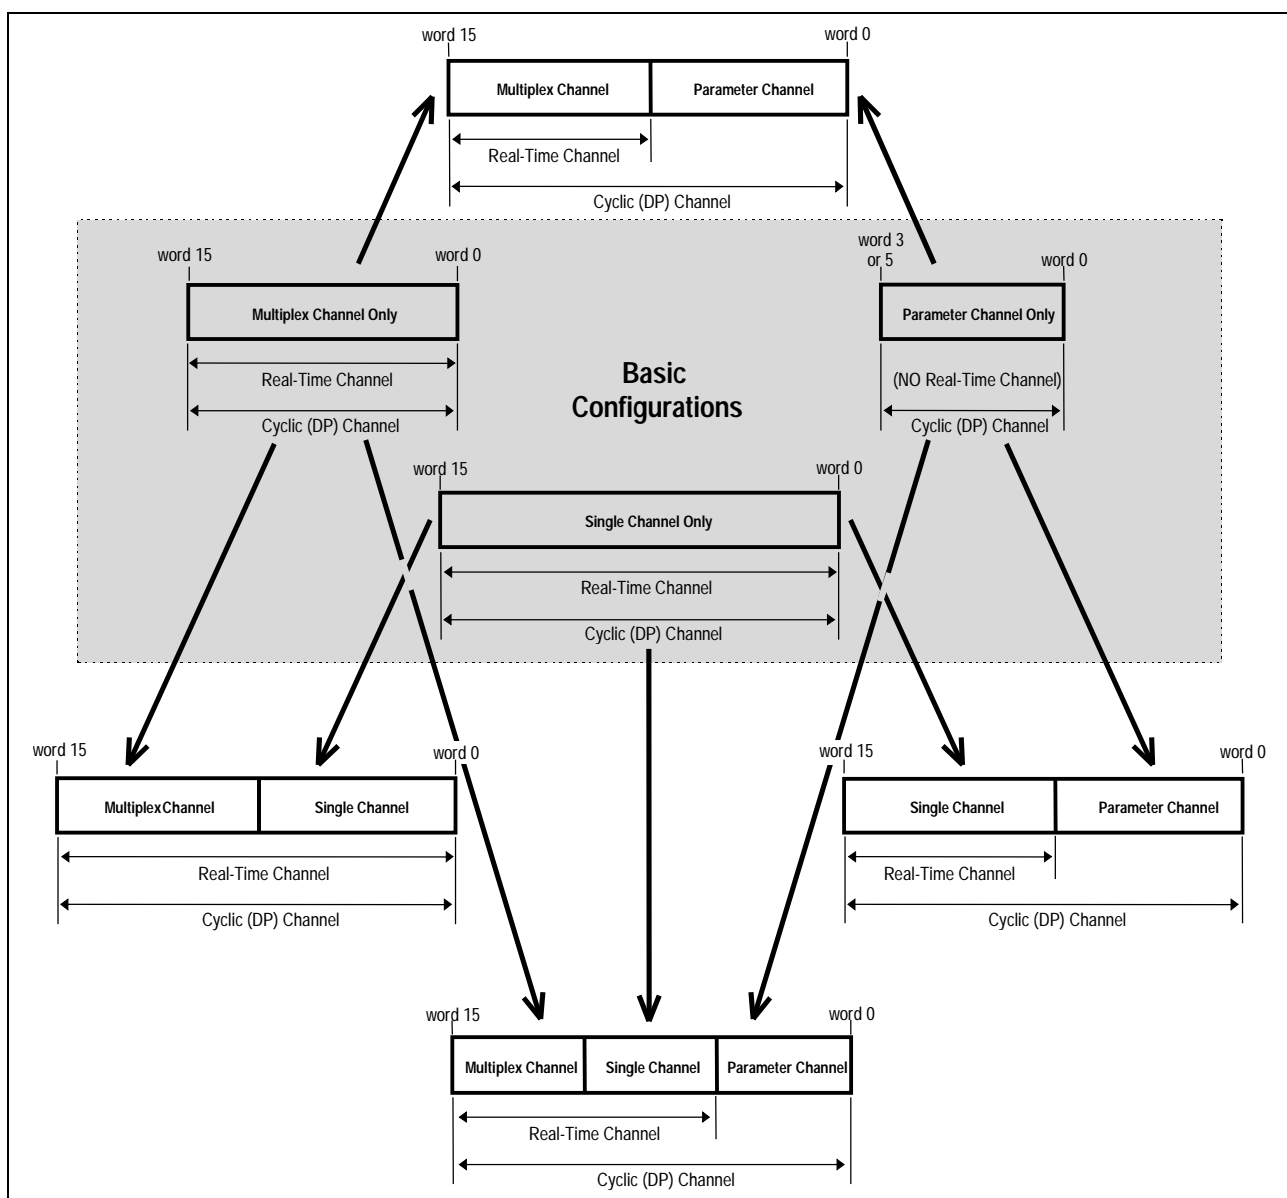

Fig. 6-2: Configuration Options for the Cyclic Data Channel
Note: The Parameter Channel is always allocated as the first 4 or 6 words of the Profibus cyclic (DP) channel. The length of the parameter channel plus the length of the real-time channel used to exchange cyclic data represents the entire length of the DP channel (maximum total length: 16 words). Refer to *Fig. 6-2* for DP channel configuration options.